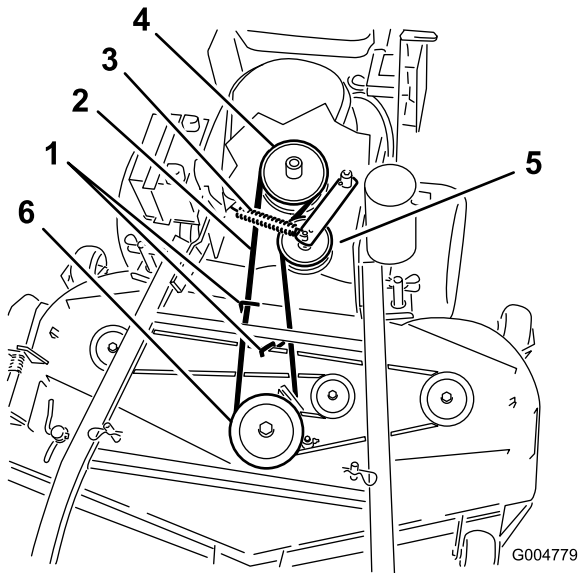

Figure 61
6. Roll the belt off of the center pulley on the mower deck (Figure 61). Use caution when removing the belt as tension will increase because of the spring loaded idler pulley.
7. Remove the belt from the engine pulley and the spring loaded idler pulley (Figure 61).
8. Install the new belt onto the engine pulley and spring loaded idler pulley (Figure 61).
9. Roll the belt onto the center pulley on the mower deck (Figure 61). Use caution when install the belt as tension will increase because of the spring loaded idler pulley.
11. Adjust the belt guide an 1/8 inch (3 mm) from the belt (Figure 61).